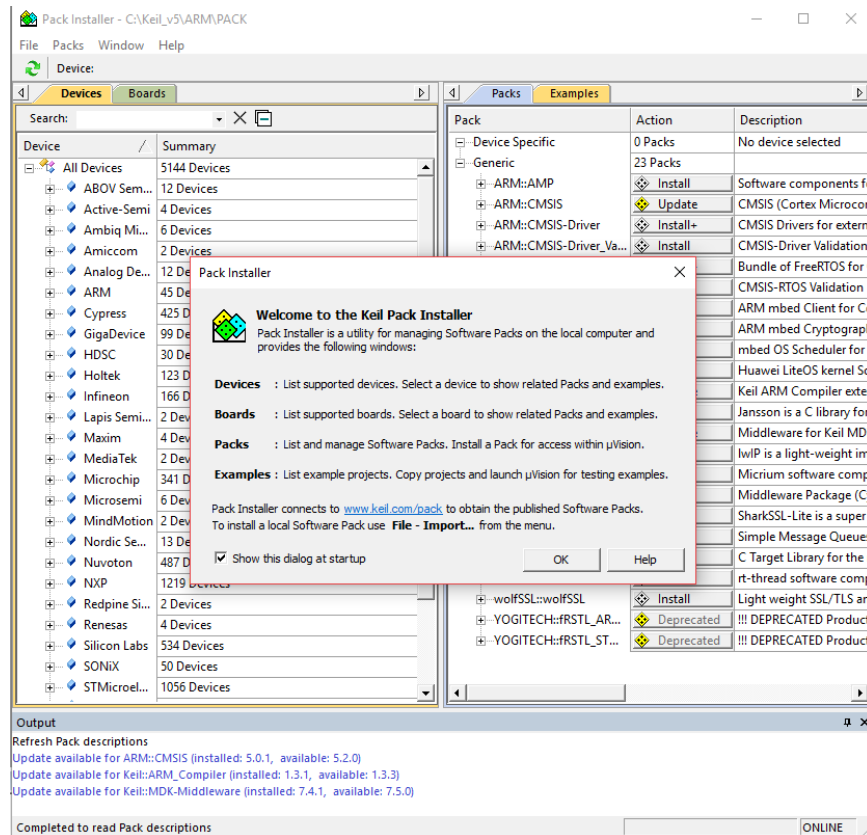

Figure 5: Pack Installer Welcome Screen
3. You should now see something similar to the window shown in Figure 5. Click OK to close the information box.